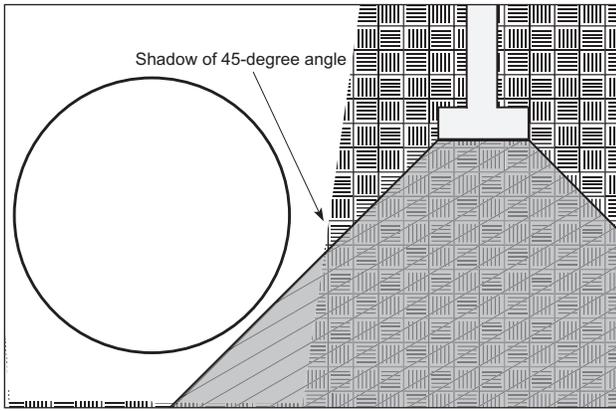

FIGURE 5-6
5.4.2. The location of a tank can be affected by the location of nearby structures. When selecting a tank site, care must be taken to avoid undermining the foundations of existing structures or new buildings to be constructed. (See FIGURE 5-6.)
5.4.3.4. The tank must not fall within the “shadow” of the 45-degree-angle line drawn from the foundation’s footing. (See *FIGURE 5-6*.)